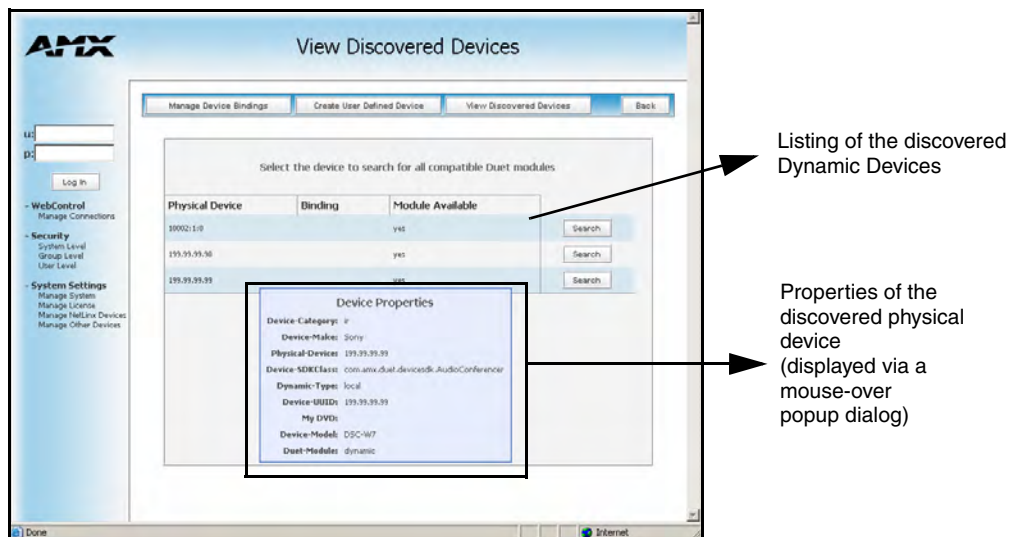

FIG. 83 View Discovered Devices page
This page (FIG. 83) provides a listing with all of the dynamic devices that have been discovered in the system.
- If the device is a DDD enabled Serial or IP device, then the device will be automatically discovered and show up in the Master's View Discovered Devices UI page under Manage Other Devices. (FIG. 83 on page 125).